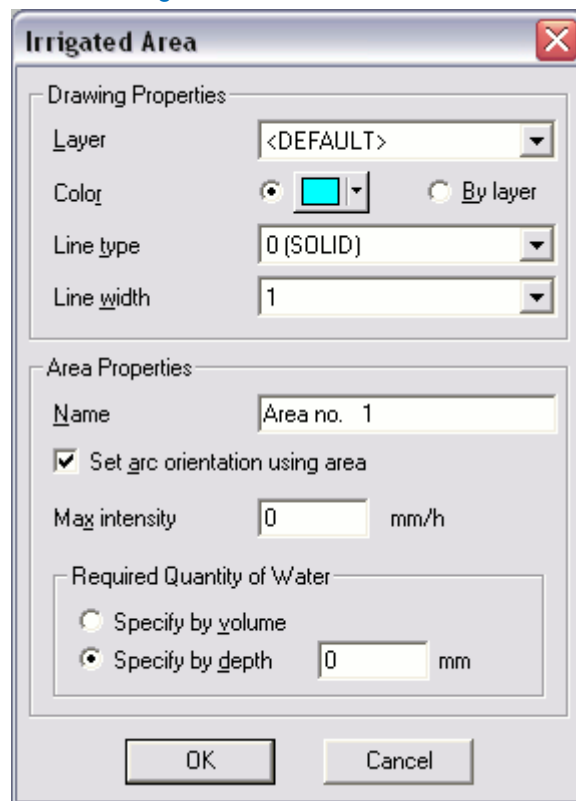

Figure 4-11
4. Select *Zone|Area* and draw a lasso around the outside of the rectangle by clicking at each point that you wish to change direction. To close the boundary *Right-click|Close*. In the dialog make sure the “Set Arc Orientation Using Area” check box is checked. See Figure 4-11.